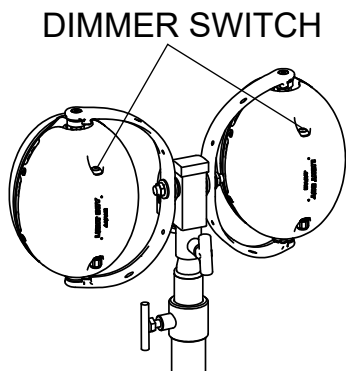

Figure 25. Dimmer Switch
2. The lamps light up at 200W, initially. Press the dimmer switch (Figure 25) on the lamp to change the brightness. Each press of the switch changes the lamp brightness in the following sequence: